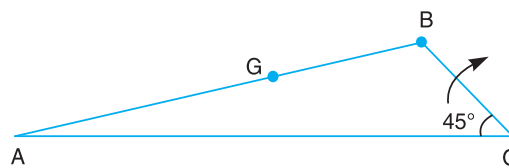

Fig. 8.38
1. The engine mechanism shown in Fig. 8.38 has crank  $OB = 50 \text{ mm}$  and length of connecting rod  $AB = 225 \text{ mm}$ . The centre of gravity of the rod is at  $G$  which is  $75 \text{ mm}$  from  $B$ . The engine speed is  $200 \text{ r.p.m.}$